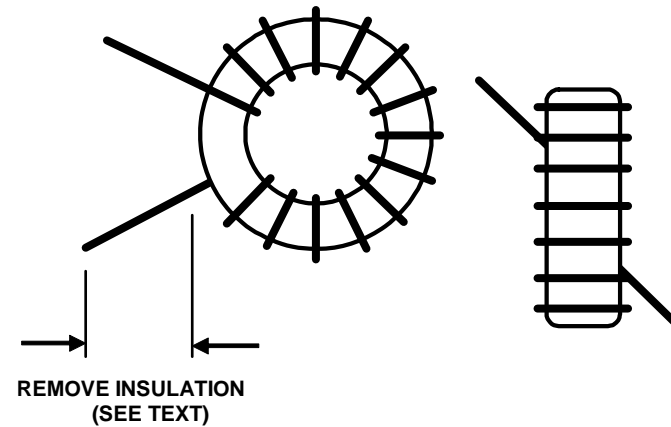

Figure 16. Toroidal Inductor L2.
- _ "Sew" the long end of the wire through the hole in the core for a total of 14 turns as shown in Figure 16. Count one "turn" each time the wire passes through the center of the core. There are no "half" or "quarter" turns when winding a toroid. Match the winding direction shown in the figure or the leads won't line up with the solder pads on the circuit board.
- _ Spread the turns around the core so the finished result looks like Figure 16.